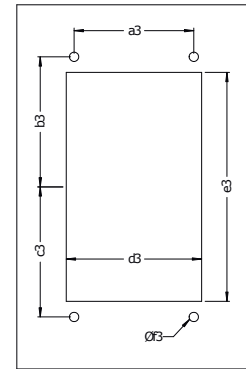

Figure 3.1: External dimensions of the inverters
External dimensions and fixing holes position according to the Figure 3.1. Refer to Section 8.4 for further details.
- The position and diameter of the mounting holes, according to Figure 3.1.
- Dimensions of the opening for mounting the back of the product, position and diameter of the mounting holes, as shown in Figure 3.1.